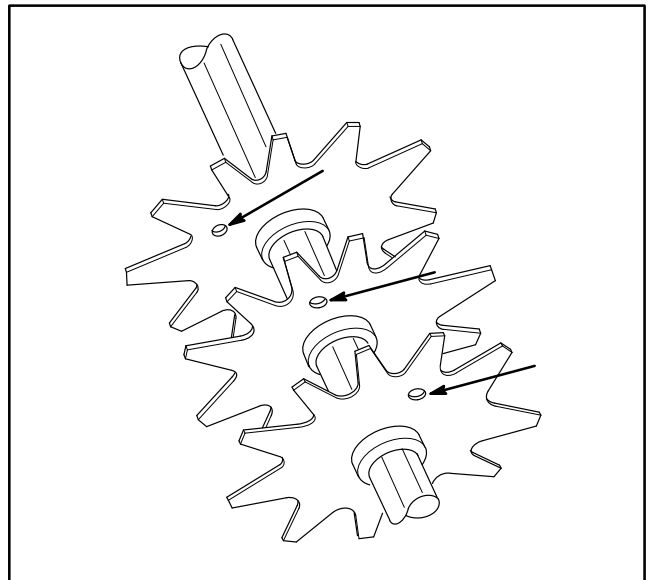

Figure 14
INSTALLING DETHATCHER BLADES (Fig. 14)
4. Install the next blade counter-clockwise so the index reference hole is not aligned with the first blade hole by one hex of the shaft (Fig. 14). Continue to install spacers and blades in this manner until the full complement of blades has been installed. When properly assembled, the blades will be staggered in such a manner to give a helix appearance.